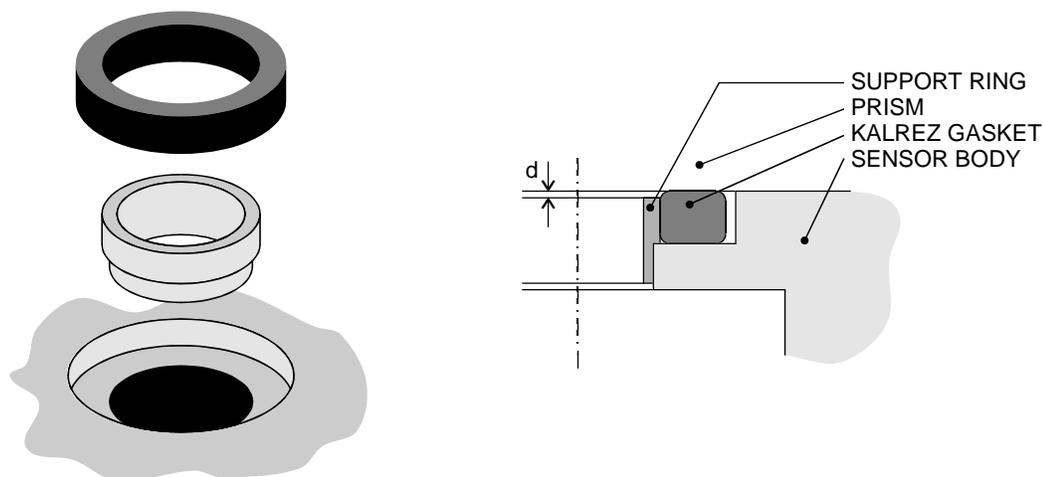

Figure 6.71 Mounting of Kalrez gaskets.
2. Check that the support rings are undamaged. Push the support rings into the holes (Figure 6.71). The rings should fit snugly. Make absolutely sure that the rings are below the surrounding surface (d in Figure 6.71). If a ring is not below the surface, then remove and check that the hole is clean and smooth.